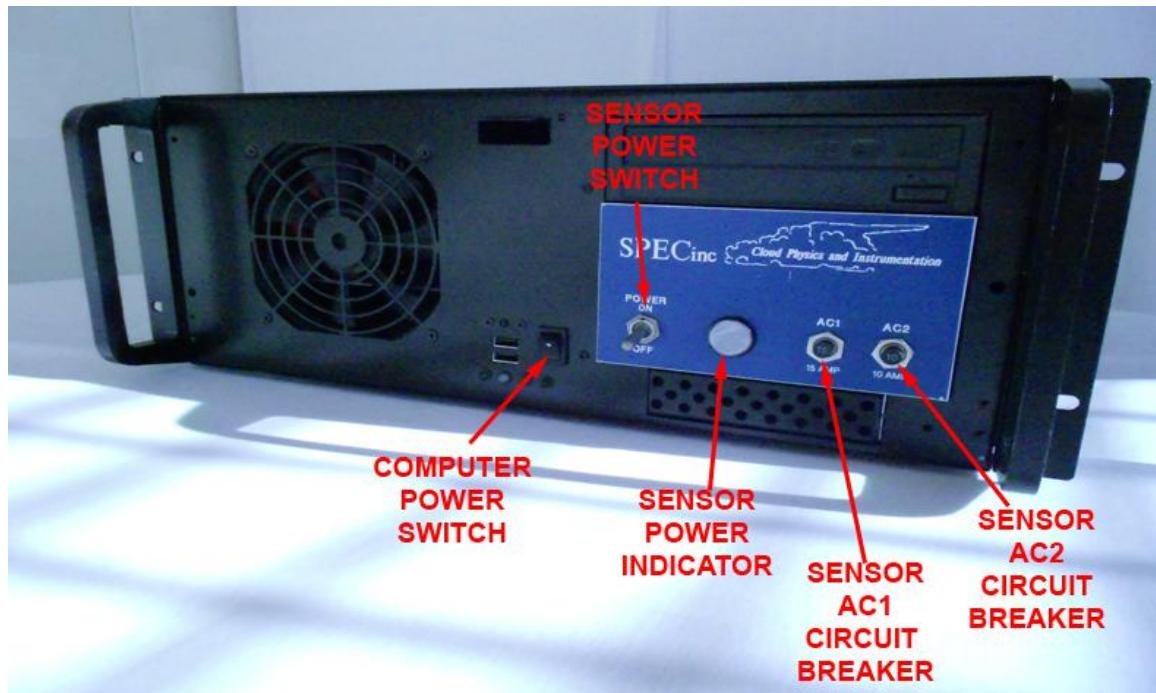

Figure 2.2.1 Front of the Data Acquisition System
See **Figure 2.2.1:** Front of the Data Acquisition System.
1. Verify that the Sensor Power switch on the front of the Data Acquisition System is turned off. Verify that the Data Acquisition System Computer is turned off. See **Figure 2.2.1**: Front of the Data Acquisition System.